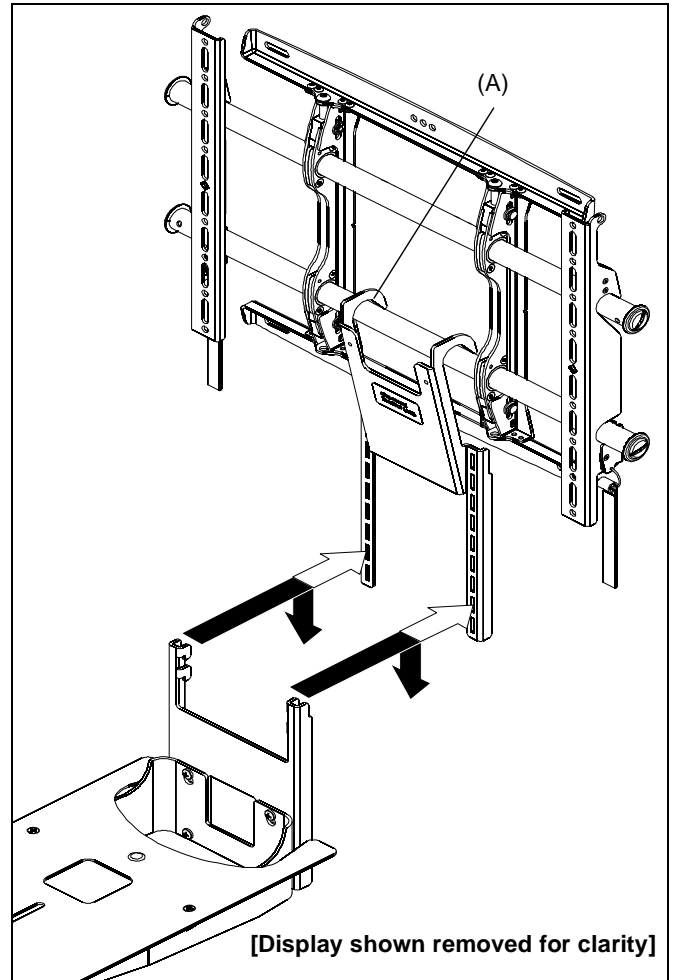

Figure 3
3. Hang shelf with hanger bracket onto the hook bracket (A). (See Figure 3)